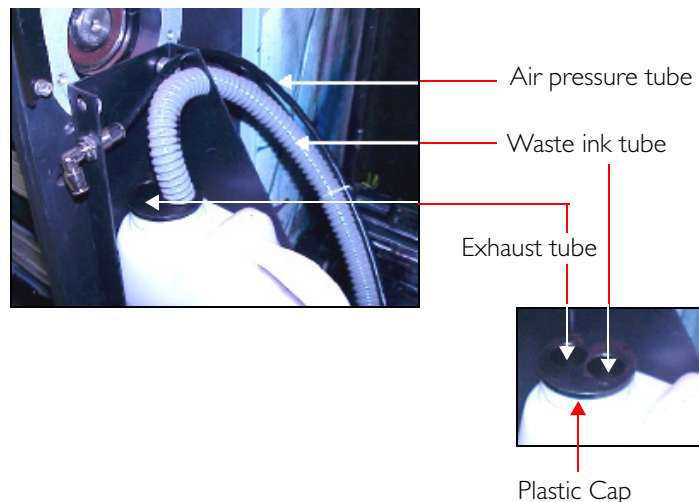

Figure 38. **Waste Ink Tank Connections**
The tank has a fume exhaust (a flexible pipe connected to the overhead hood) and is also connected to the pneumatic system. A flexible plastic pipe attached to the vacuum cleaner leads into the neck of the waste tank. Both this and the exhaust pipe are held firmly in place, fitting through holes in a black plastic cap screwed to the tank - see Figure 38.
1. Unscrew the black plastic cap on the top of the waste tank and carefully remove the tank from its metal housing - see Figure 38 on page 3-12.